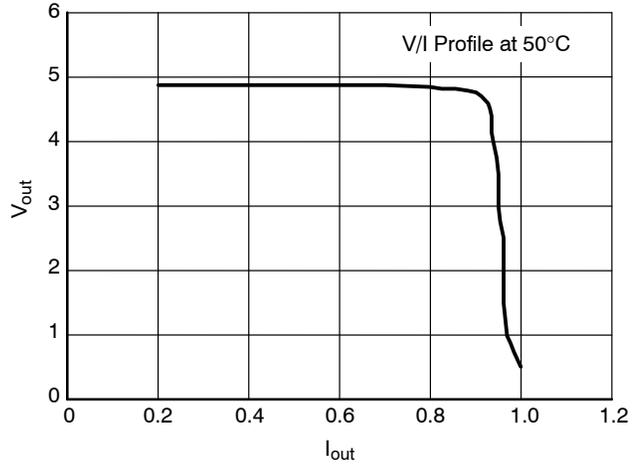

Figure 2. Slight Current Tail Due to Hard Short Circuit
Although this charger circuit meets previous energy efficiency requirements, the constantly evolving standards are moving toward even higher efficiency limits. One of the largest sources of inefficiency in this circuit is the large value of the current sense resistor R4, particularly when the charger is operating in the constant current (CC) mode. When the current reaches one amp, the voltage drop across R4 turns on Q1 which bypasses zener D5 (which controls the charger when in the constant voltage (CV) or float mode) and regulates the current at a constant value. Note that the voltage source which supplies current to the feedback optocoupler U2 is just the output voltage of the supply and this voltage will fall as the load resistance drops during overload. At some point approaching a “hard” short circuit, the output voltage level will fall below the forward drop of the optocoupler’s photo diode. At this point the output voltage is too low to power the opto and the V/I load line profile will show a current “tail” in which CC operation is not longer functional. Fortunately batteries and similar loads do not drop this low in normal operation, however, safety agencies may require testing with a hard short circuit and if the current tail is excessive or can cause component failure due to overheating or excessive current, the charger will fail approval. In the case of the 5 volt, 1 amp reference design, the current tail is shown in Figure 2 for operation at